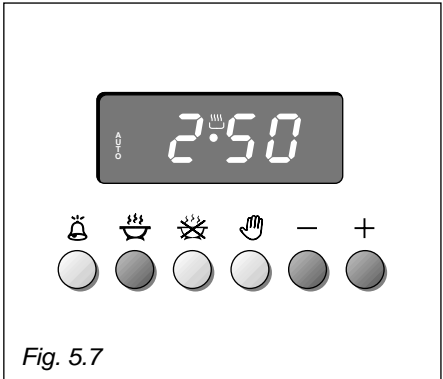

Fig. 5.7
- 1. Set the length of time you need to cook the food by pushing the  button and the  button to advance, or  to go backwards (Fig. 5.7). This sets the desired "stop" time.